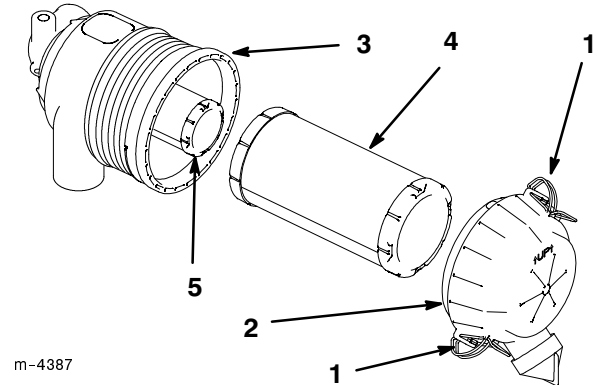

Figure 57
3. Release the latches on the air cleaner and pull the air cleaner cover off of the air cleaner body (Fig. 57).
5. Gently slide the primary filter out of the air cleaner body (Fig. 57). Avoid knocking the filter into the side of the body. Do not remove the safety filter, unless you intend to replace it as well.
2. If the safety filter is being replaced, carefully slide it into the filter body (Fig. 57).
3. Carefully slide the primary filter over the safety filter (Fig. 57). Ensure that it is fully seated by pushing on the outer rim of the filter while installing it.
4. Install the air cleaner cover with the side indicated as UP facing up and secure the latches (Fig. 57).